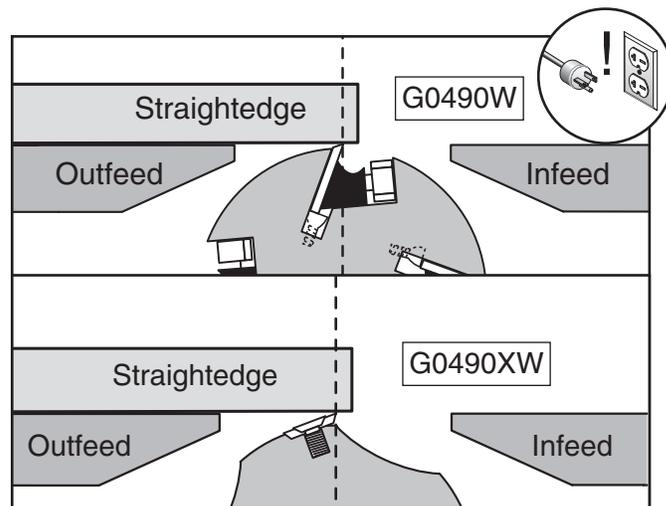

Figure 79. Using straightedge to check outfeed table height.
7. Use outfeed table adjustment lever to set outfeed table so that knife or insert barely touches straightedge, as illustrated in **Figure 79**.